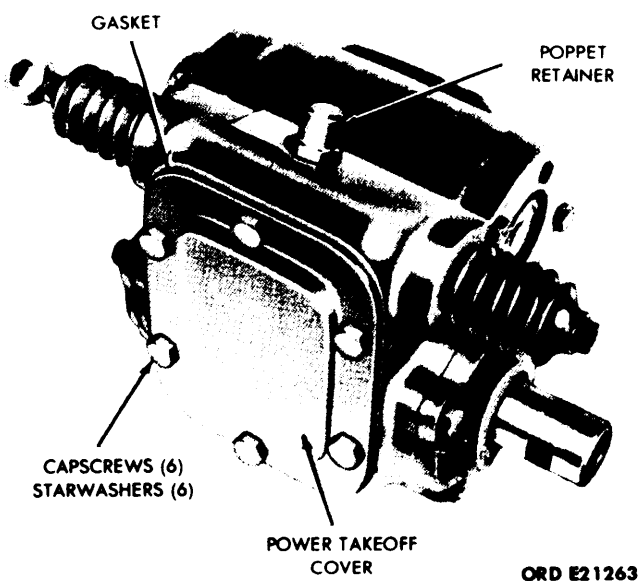

Figure 5-3. Removal of Power Takeoff Cover, Poppet Retainer, Poppet Spring and Ball.
(1) Remove the six capscrews and star washers securing the power takeoff cover to the carrier. (See fig. 5-3.) Remove the cover and the cover gasket.
(2) Remove the poppet retainer (fig. 5-3). Turn the power takeoff on the side and remove the poppet spring and ball.
- k. Power takeoff cover, poppet retainer, and poppet spring and ball. (See fig. 5-3.)